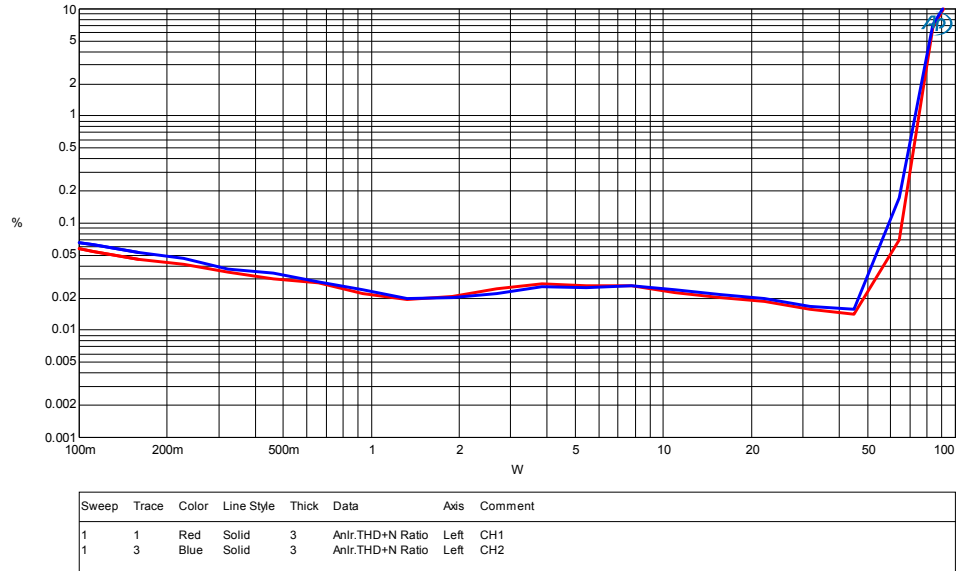

Figure 3
15. For all subsequent tests as shown on the Audio Precision graphs below (Figure 3-Figure7), the measurements are taken across J3 and J4 with an AES-17 Filter. Observe that a 1 V_{RMS} input generates an output around THD+N=1% power level.